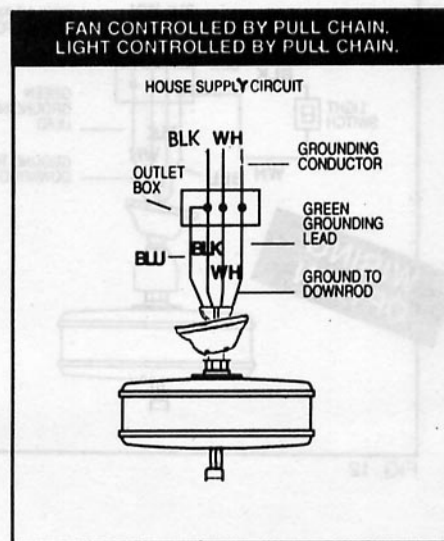

FIG. 11
Step 1. Connect the fan supply (black) wire and light supply (blue) wire to the black household supply wire as shown in Fig. 11.